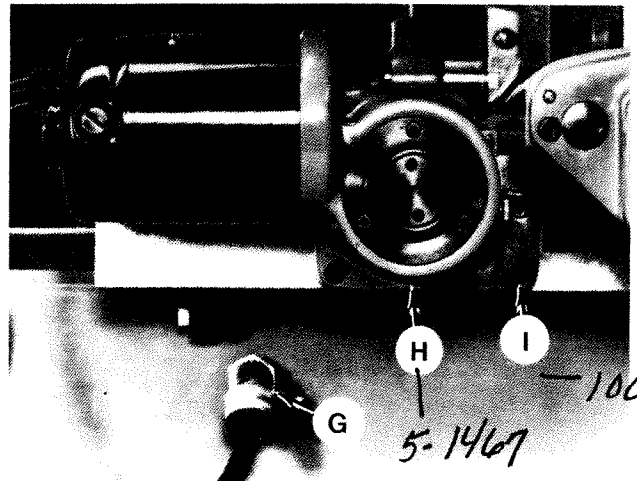
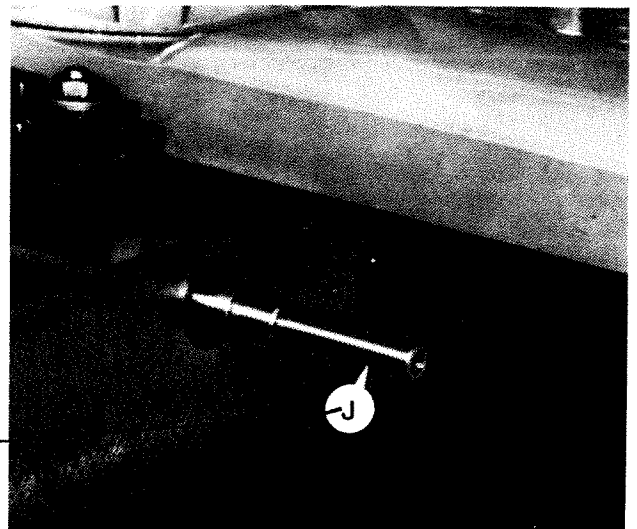

Figure 3.44 - Power Feed Drive
Figure 3.45 - Power Feed Drive Shaft
8. Remove cord grip "G", Figure 3.44, and pull the cable out through the bed.
10. Remove three bolts "I", Figure 3.44, and pull the power feed drive assembly straight off drive shaft "J", Figure 3.45 .
11. To remove drive shaft "J", Figure 3.45:
5. Line up the centerline of worm wheel "W", Figure 3.52, with the centerline of the hole from which pipe plug "H", Figure 3.44, was removed.
12. Slide the power feed drive assembly straight onto drive shaft "J", Figure 3.45, and install three bolts "I", Figure 3.44 .
15. Slide the nut for cord grip "G", Figure 3.44, over the power feed motor cable.
24. Hand tighten the nut for cord grip "G", Figure 3.44, to secure the power feed motor cable.